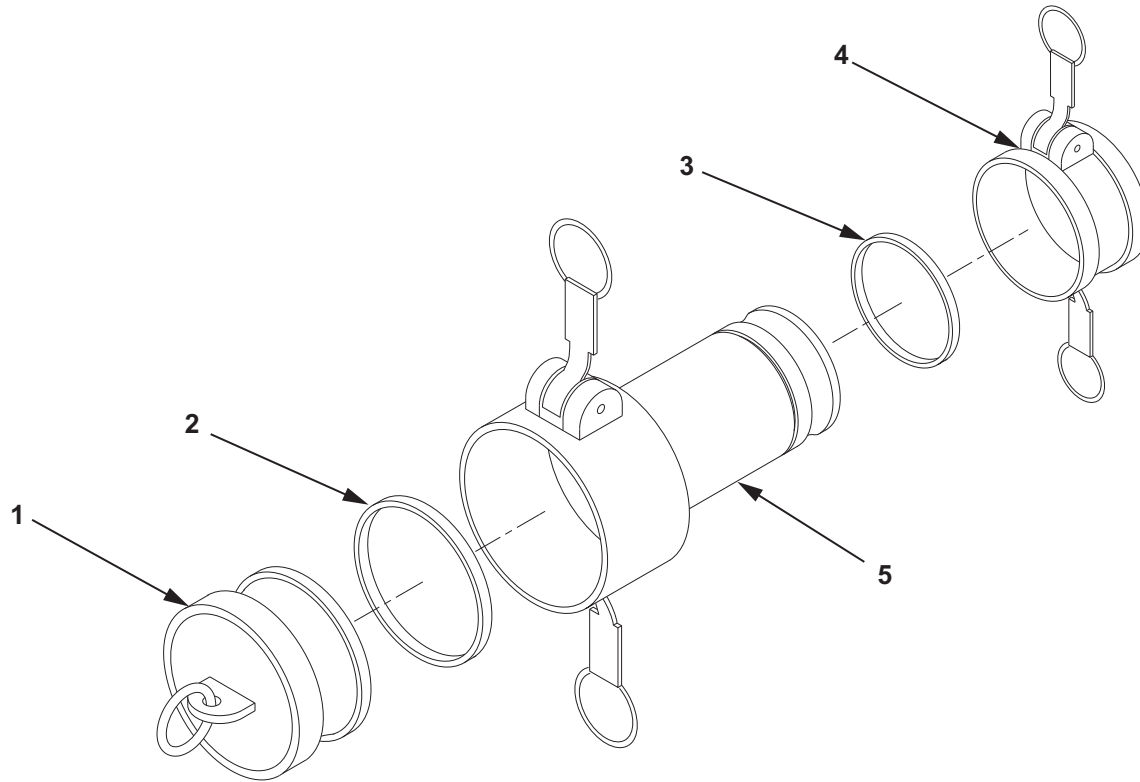

Figure 2. 2 In. Female X 1.5 In. Female Reducer Assembly.
1. Install new gasket (Figure 2, Item 3) into 2 in. dust cap (Figure 2, Item 4).
2. Install new gasket (Figure 2, Item 2) into reducer assembly (Figure 2, Item 5).
3. Install 1.5 in. dust cap (Figure 2, Item 4) on reducer assembly (Figure 2, Item 5).
4. Install 2 in. dust plug (Figure 2, Item 1) in reducer assembly (Figure 2, Item 5).